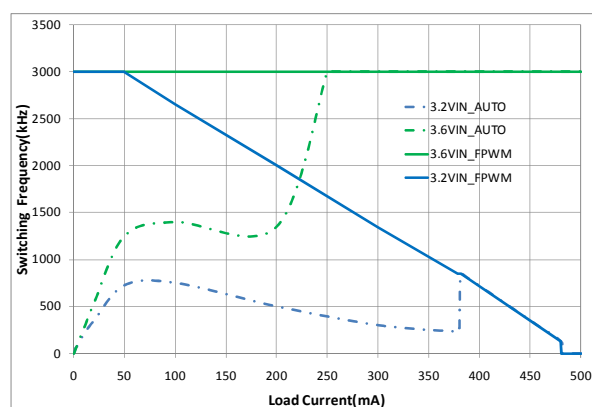

Figure 7. Effect of  $t_{OFF(MIN)}$  on Reducing Switching Frequency
- Limited by the effect of  $t_{OFF}$  minimum (see Figure 7 in Typical Performance Characteristics).